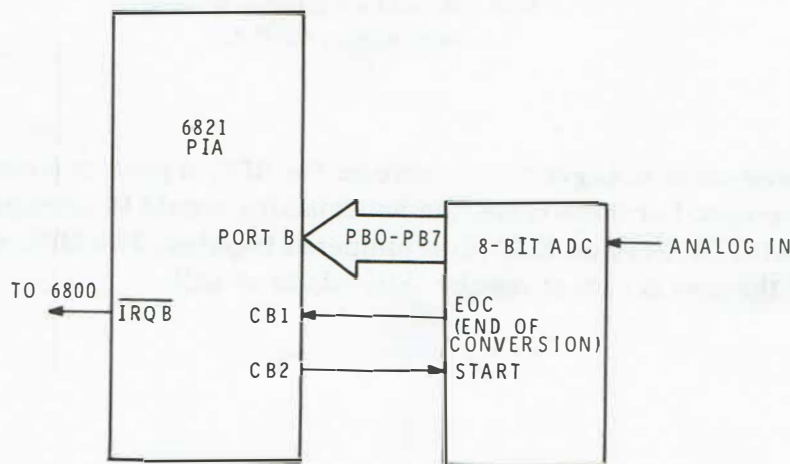

Figure 8-33
Interfacing these devices to your microcomputer system is relatively easy. An 8-bit ADC is shown interfaced to the PIA in Figure 8-33. Most **microprocessor compatible** ADCs have two major control lines. One line is used to start the conversion process by the microprocessor and the other is used to signal the microprocessor when the conversion is finished. The most common designation for the start line is simply START. However, some manufacturers might designate it as Initiate Conversion (IC), RUN, CONVERT, etc. Various designations such as Data Valid (DV), DONE, STATUS, BUSY, etc. are also used by different manufacturers for the end of conversion (EOC) line.
In Figure 8-33, CB2 of the PIA is used to start the conversion. When the conversion is complete, the ADC will activate the CB1 input line of the PIA to generate an interrupt to the MPU. A read operation can then be performed on port B to input the digital data.